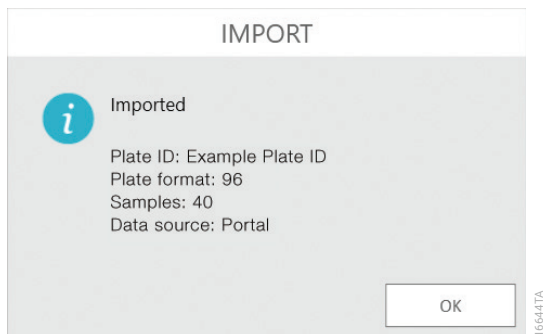

Figure 41. Example 'Import' screen. The 'Import' screen displays a summary of information retrieved from the Portal software.
7. Tap the **Import** button to import the plate map retrieved from the Portal software and open the Plate View tab. An ‘Import’ screen is shown, summarizing the results of the plate import including the Plate ID, plate format and number of samples retrieved (Figure 41). Tap **OK** to dismiss the ‘Import’ screen.